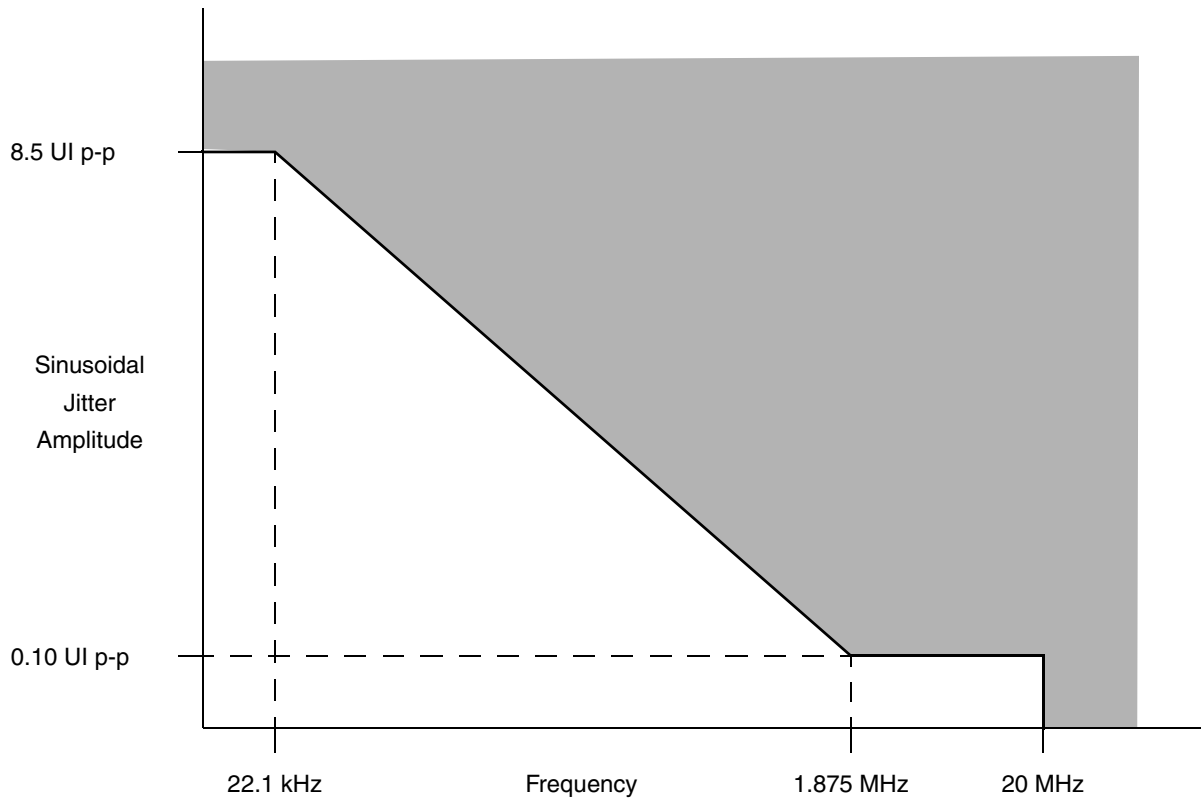

Figure 48. Single Frequency Sinusoidal Jitter Limits
2. See Figure 48 for single frequency sinusoidal jitter limits.